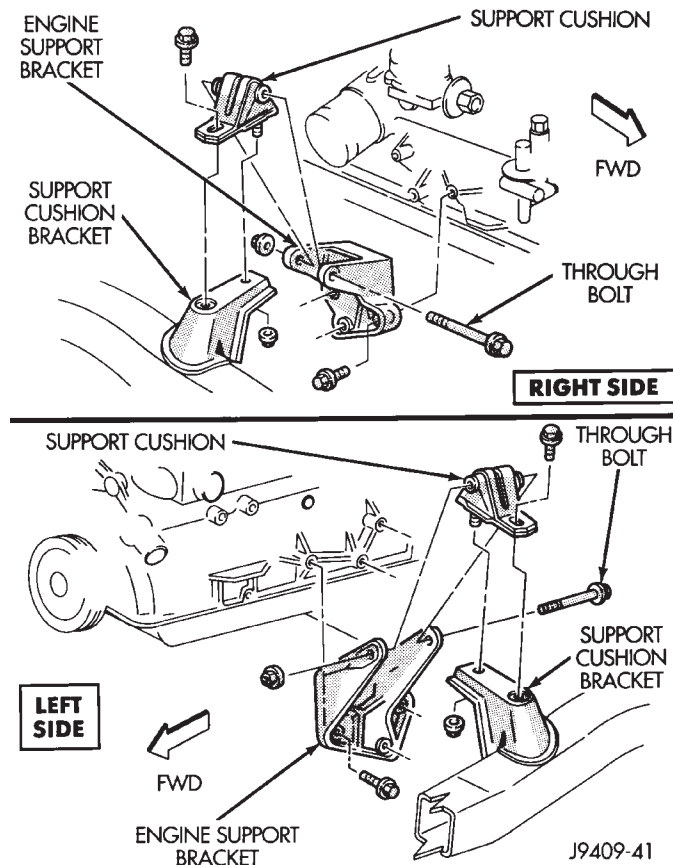

Fig. 9 Front Mounts—YJ Vehicles
- (3) Support the engine.
- (4) Remove through bolt nut (Fig. 9). DO NOT remove the through bolt.
- (5) Remove the retaining bolts/nuts from the support cushions (Fig. 9).
- (6) Remove the through bolt.
- (7) Remove the engine support cushions.
(1) If the engine support bracket was removed, position the bracket onto the block and install the attaching bolts (Fig. 9). Tighten the bolts to 62 N·m (46 ft. lbs.) torque.
(2) Place the support cushion on the support cushion bracket (Fig. 9). Install the support cushion retaining bolts and nuts. Tighten the bolts/nuts to 52 N·m (38 ft. lbs.) torque.
(3) Install the through bolt and the retaining nut (Fig. 9). Tighten the through bolt nut to 69 N·m (51 ft. lbs.) torque.
(4) Remove the engine support.
(5) Lower the vehicle.
(6) Connect negative cable to battery.